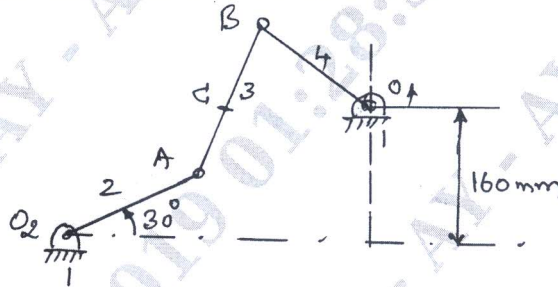

Fig.Q3(b)
- The crank O_2A of a four bar mechanism shown in Fig.Q3(b) below rotates clockwise at a constant speed of 100 rad/sec. Determine: